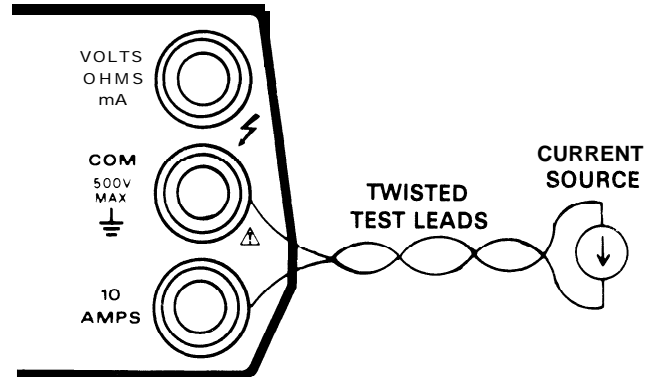

Figure 2-5. Current Measurements Between 2000mA and 20A
The test leads used must be capable of handling 20A and it is recommended that they be twisted (see Figure 2-5) to minimize external fields which could affect the Model 175 or other equipment. Also, keep the test leads as short as possible to minimize voltage drop.
- D. Connect the test leads to the current source as shown in Figure 2-5 and make the reading from the display.